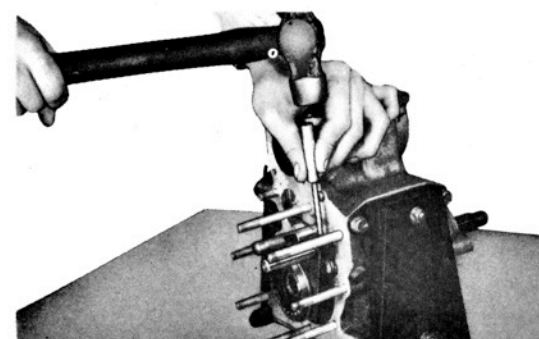
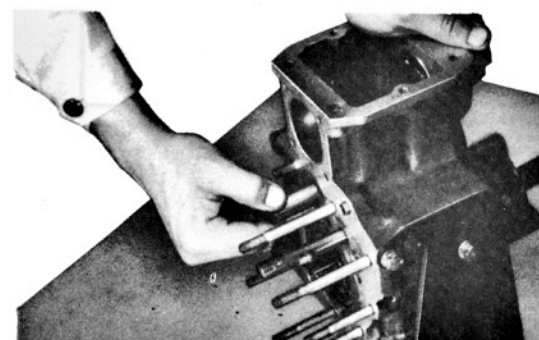

Fig. 3-9.
Fig. 3-10.
12) Drive out the shift fork spring pin with the special tool (spring pin puller-09922-85810) as shown in the Fig. 3-9 and remove the front drive shift fork, reduction clutch hub and reduction clutch sleeve.
13) Take out the two (2) bolts and remove the gearshift fork shaft stop plate.
14) Drive out of position the counter gear shaft by lightly tapping from the parking brake side (the end of the shaft not fitted with the stopper pin) and remove the shaft completely by turning it with hand as shown in the Fig. 3-10. When removing the shaft, use reasonable care to prevent damaging the "O" ring fitted to the end of the counter gear shaft.
15) With the shaft removed, the transfer counter gears can be removed from the transfer case. When removing the counter gear, carefully note the position of the two (2) needle roller bearings, spacer and thrust washers of different thickness fitted to both sides of the gear. (The thrust washer in thickness of 3.8mm (0.15mm) should be positioned at the low speed side.)